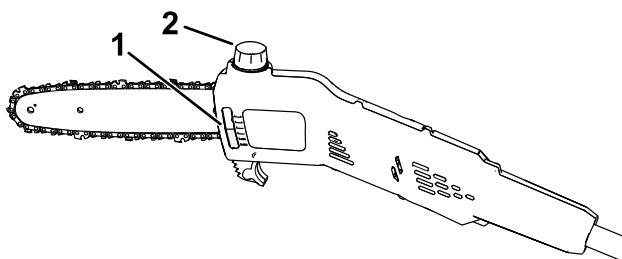

Figure 16
2. Check the oil level in the window. If the oil does not fill the window, add bar and chain oil as needed (Figure 16).
4. Clean the area around the oil cap (Figure 16).
5. Remove the cap, and pour bar and chain oil into the pole saw until the oil fills the tank (Figure 16).